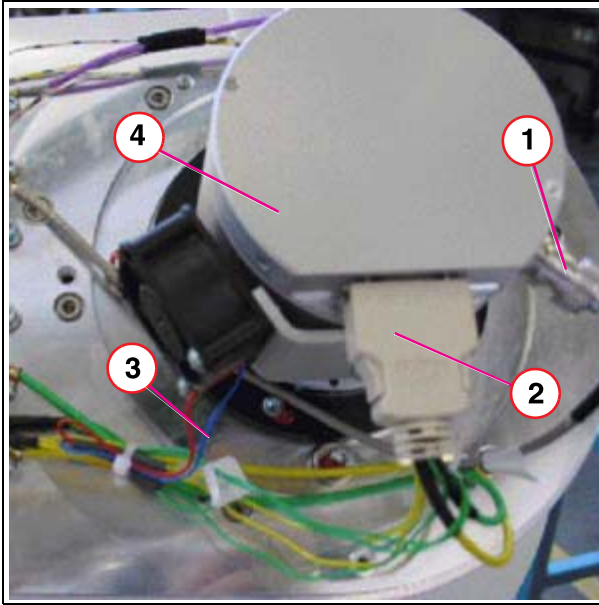

Fig. 9: II _ Connection
2. Remove the upper I.I. cover (already removed in (Fig. 9 / p. 40)).
3. Unplug the connectors (1/Fig. 9 / p. 40), (2/Fig. 9 / p. 40) and disconnect the fan wires (3/Fig. 9 / p. 40).
7. Turn the entire camera (4/Fig. 9 / p. 40) counterclockwise until it is no longer attached. For subsequent reinstallation, count the number of turns when removing the camera. The connector (2/Fig. 9 / p. 40) should be in the position shown in (Fig. 9 / p. 40).
9. Reattach the connectors (1/Fig. 9 / p. 40), (2/Fig. 9 / p. 40) and the fan wires (3/Fig. 9 / p. 40).